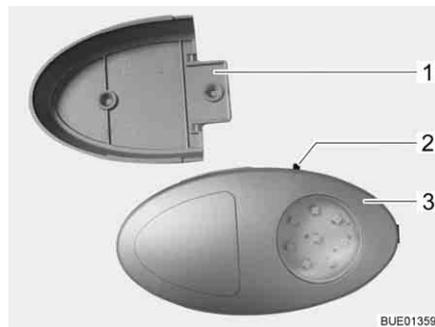

Fig. 65 Wardrobe light
- ▷ The wardrobe light can be removed from its holder (Fig. 65,1) and used as a torch.
The On/Off switch (Fig. 65,2) is located directly on the wardrobe light (Fig. 65,3).